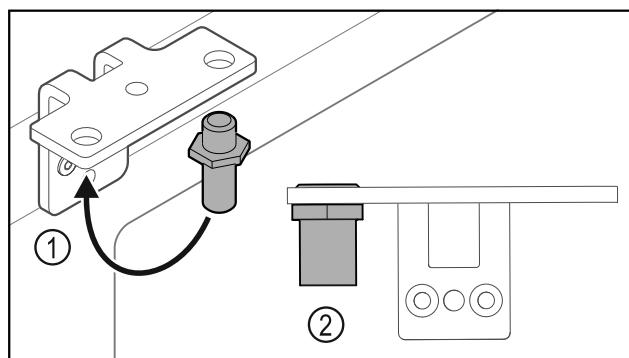

Fig. 13
- Put the pin back into the hinge Fig. 13 (1).
- Tighten the pin Fig. 13 (2) to a **torque of 12 Nm**.